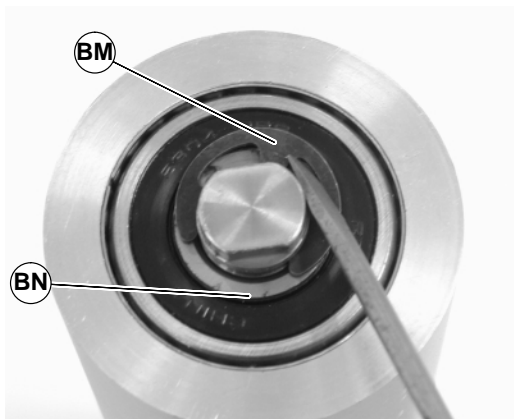

Figure 56
- Remove the pulley shaft assembly: remove the clip ring (BM of Figure 56) and washer (BN) from one side of the pulley assembly.